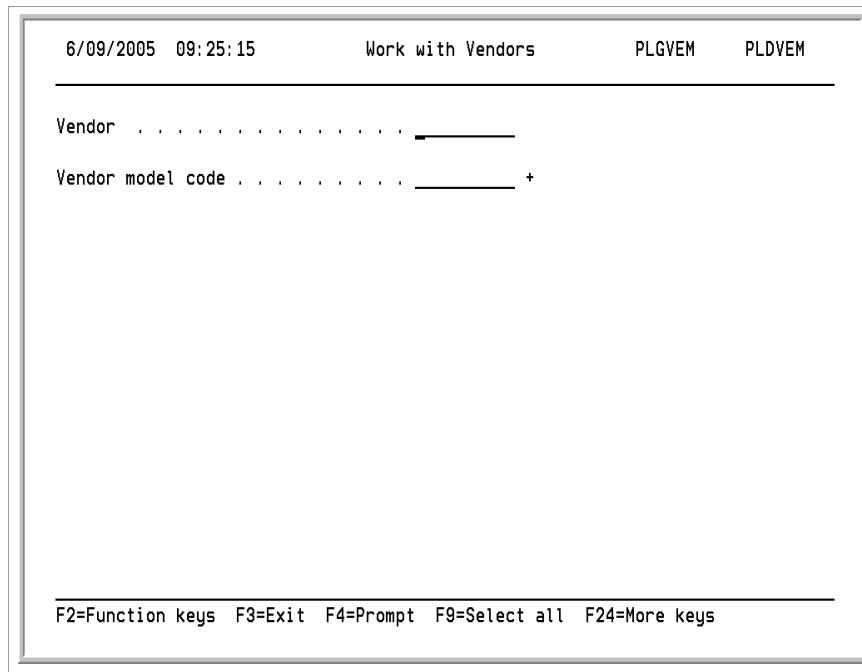

Figure 3-25: Work With Vendors prompt screen
- 3 You can press F6 to create a vendor. You can also select an existing vendor and select **Change** or type 2 and press Enter. The system displays the screen shown in Figure 3-25 if you press F6.